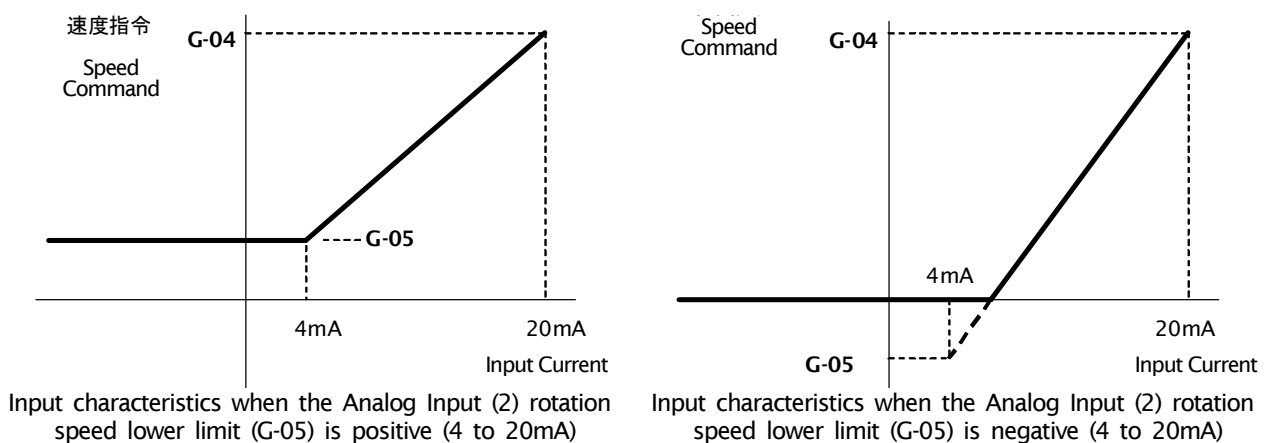

Figure 5.4 Speed command characteristics with current input of 4 to 20mA
The rotation speed command value is set as the Analog Input (2) rotation speed lower limit (G-05) when the input is 4mA. When the input is 20mA, it is set as the Analog Input (2) rotation speed upper limit (G-04). However, this will be set to "0" if the Analog Input (2) rotation speed lower limit (G-05) has a negative value. (Figure 5.4) If the minimum rotation speed (A-01) is other than "0", the rotation speed command absolute value is controlled to prevent falling below the minimum speed. As a speed command, this only allows forward operation. For reverse operation, a reverse operation command should be used.